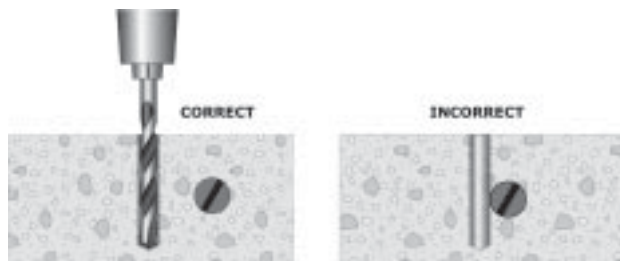

Figure 109: Drilling into concrete with rebar.
**If you strike steel reinforcement when drilling, you must have the damage inspected. As directed, fill the hole with approved grout and select a new location according to minimum spacing requirements. Drill a new hole (see Figure 109 below).**
**!** If you strike steel reinforcement when drilling, you must have the damage inspected. As directed, fill the hole with approved grout and select a new location according to minimum spacing requirements. Drill a new hole (see Figure 109, page 110).